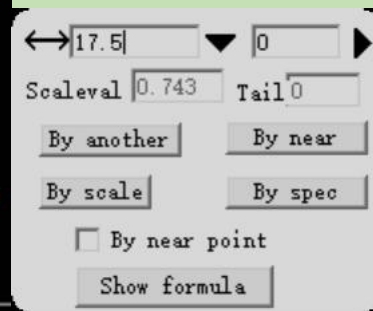

Figure4-33
2.Input the data of points on the line. ( Figure4-33 ), If the point is known, there is no need to input data.